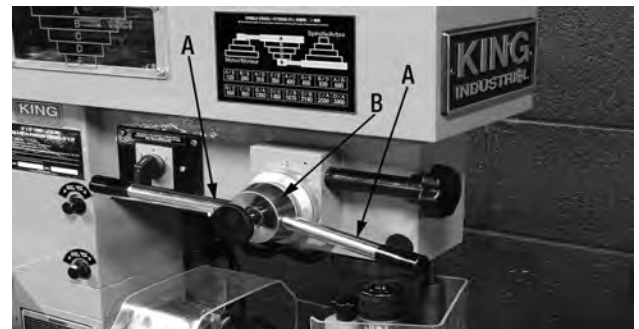

FIGURE 6
3. Install both downfeed handles (A) Fig.6, thread them into the downfeed hub (B).